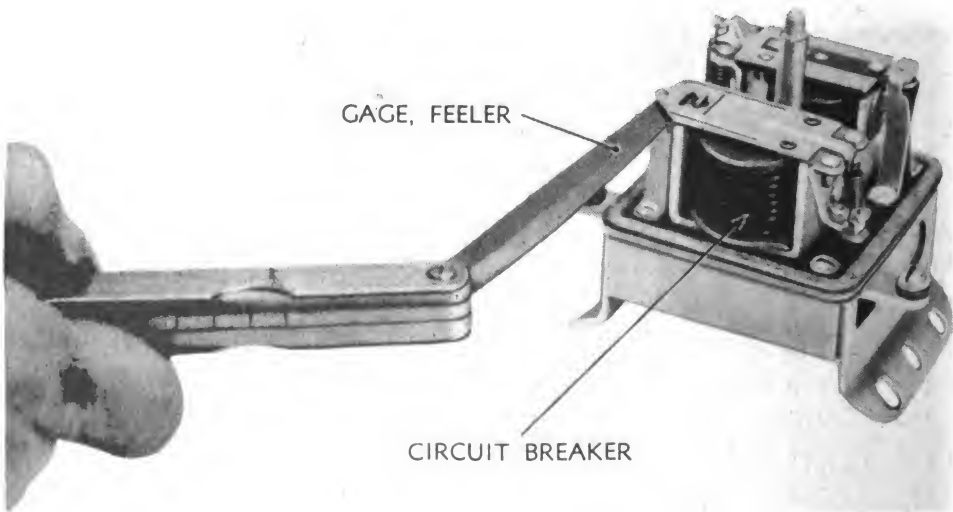

Figure 142 — Checking Circuit Breaker Contact Gap
(7) **CIRCUIT BREAKER CONTACT GAP.** Check circuit breaker contact gap (fig. 142). It must be 0.015 to 0.045 inch. Adjust by bending armature stop.